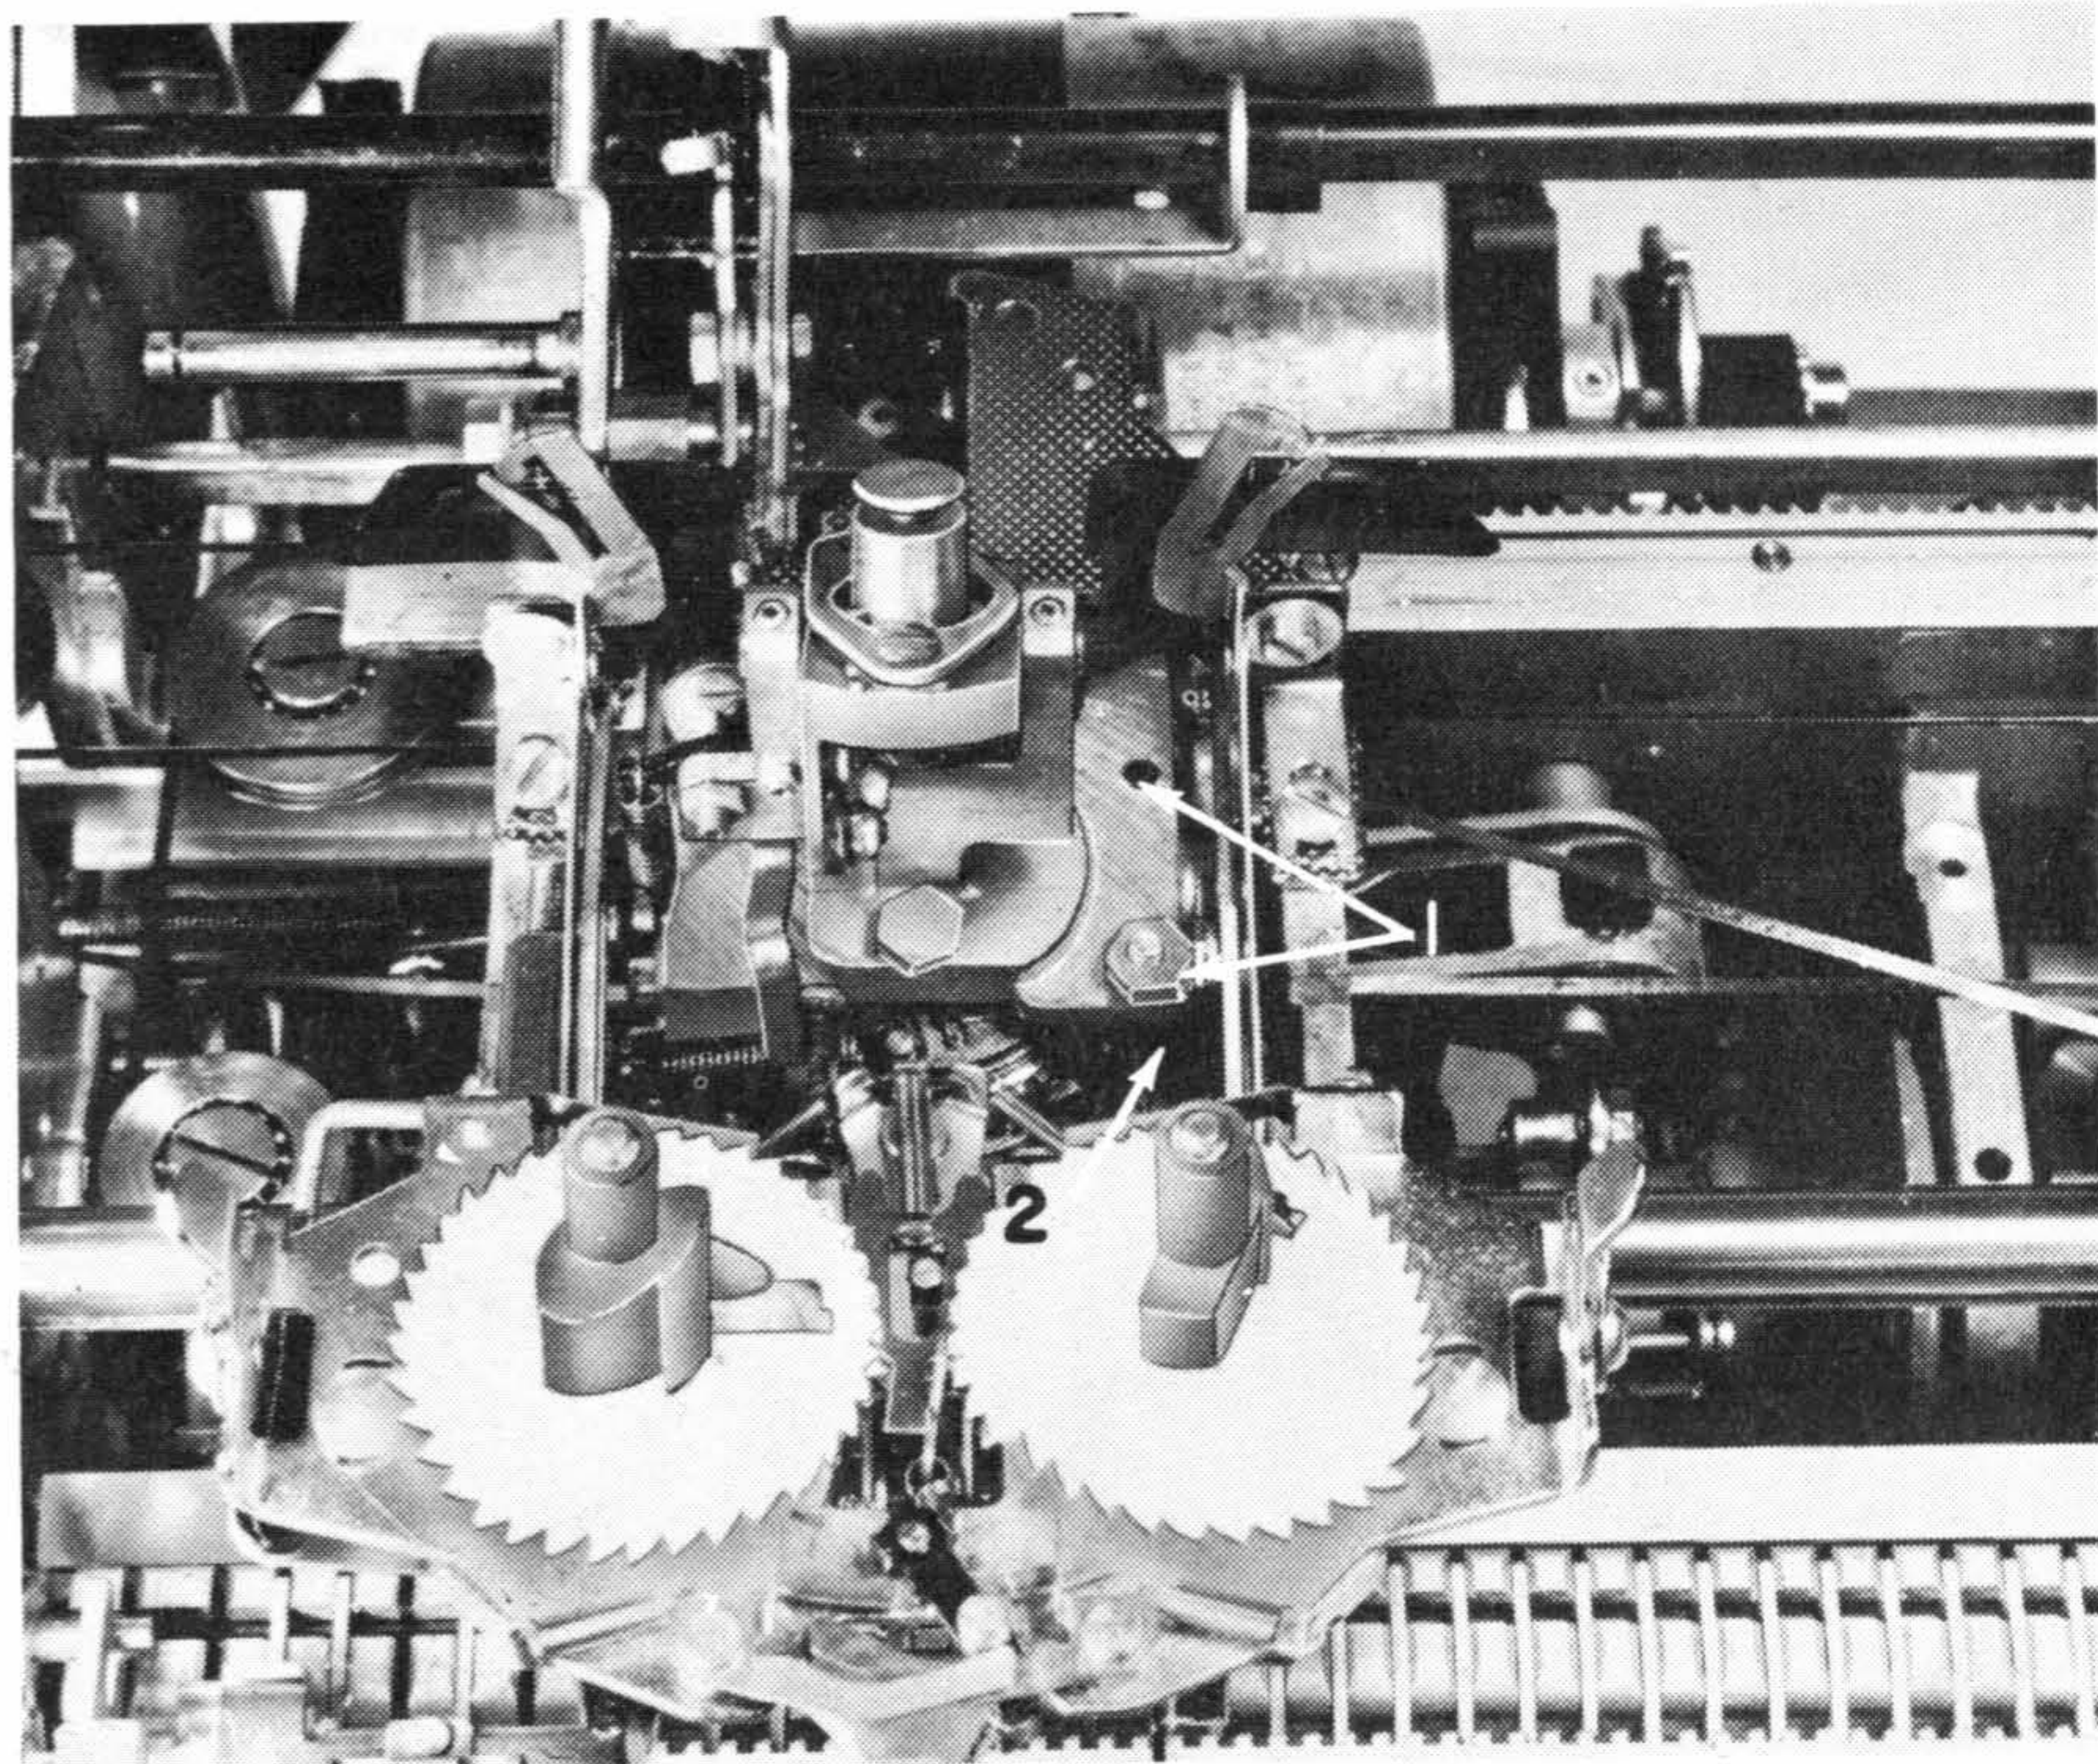

Figure 13. Rotate Spring Replacement
5. Remove the two nuts (#1, Figure 13), one on newer machines, immediately to the right of the yoke on the carrier, remove the black clip from under the nut (#2, Figure 13) and gradually remove the tension from the rotate spring.